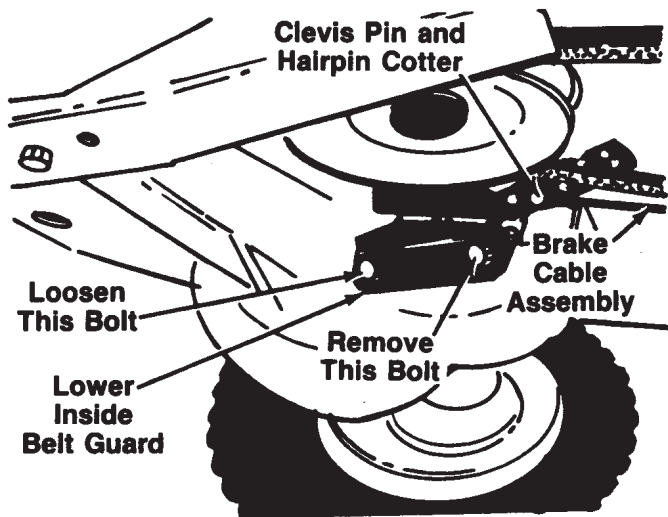

FIGURE 3.
- Loosen the second bolt (do not remove), then pivot the guard downward, and slip the deck belt off the engine pulley. See figures 3 and 4.
6. Disconnect the brake cable from the lower inside belt guard by removing the hairpin cotter, clevis pin and flat washer. See figure 3.
7. Remove the front hex bolt from the lower inside belt guard as shown in figure 3.